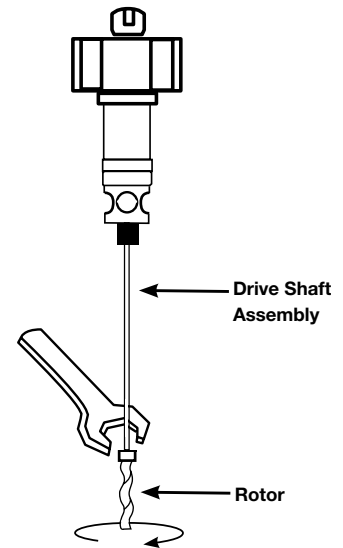

Figure 7
7. Hold the drive shaft in a fixed position and loosen the rotor (counterclockwise) located at the bottom of the drive shaft (see Figure 7).
5. Thread drive shaft onto bearing housing shaft (see Figure 7, page 4).
6. Thread rotor onto drive shaft (see Figure 7, page 4).
8. Thread stator can onto pump body (see Figure 7, page 4).